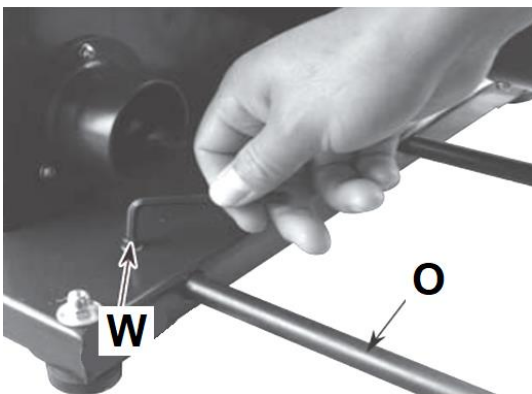

Fig 4
- Secure the support (O, Fig 4) with two bolts and nuts (W)
- Remove table tilt locking knob (S, Fig 4) from saw frame.